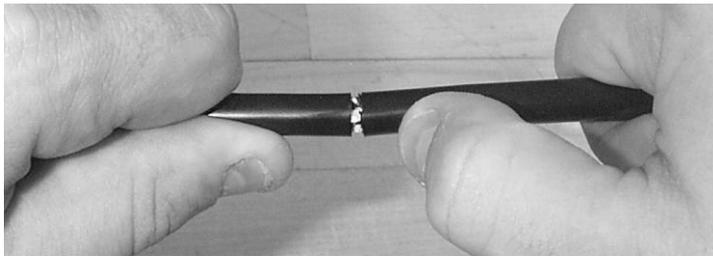

Figure 3 – Flex the cable to separate the sheath.
4.3 Gently flex the cable at the ring cut with a circular motion, being careful not to violate the minimum bend radius. The polyethylene sheath will separate at this point (Figure 3).